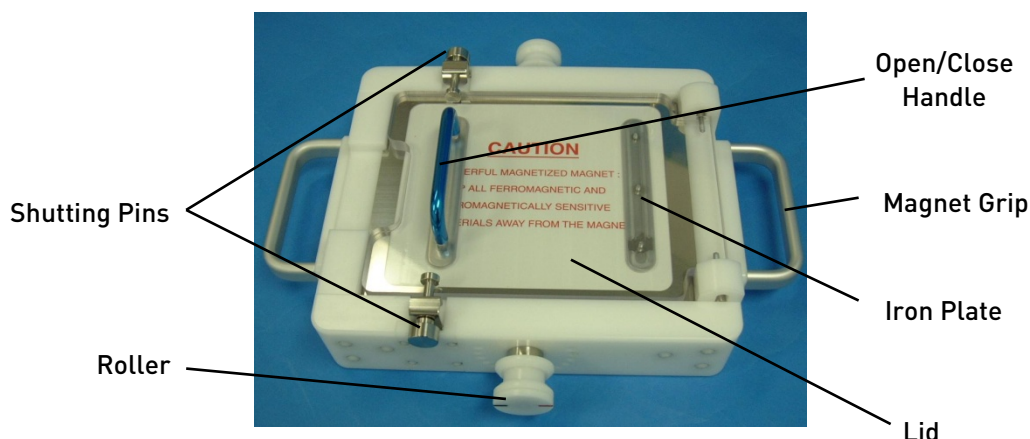

Figure 3 DynaMag™ CTS™ Primary Magnet
**Attaching the magnet:** Hold the Primary Magnet grips tightly (Figure 3) and align the grooves of the rollers on the roller guides of the Rotation Unit. Insert the roller Guide into the grooves.